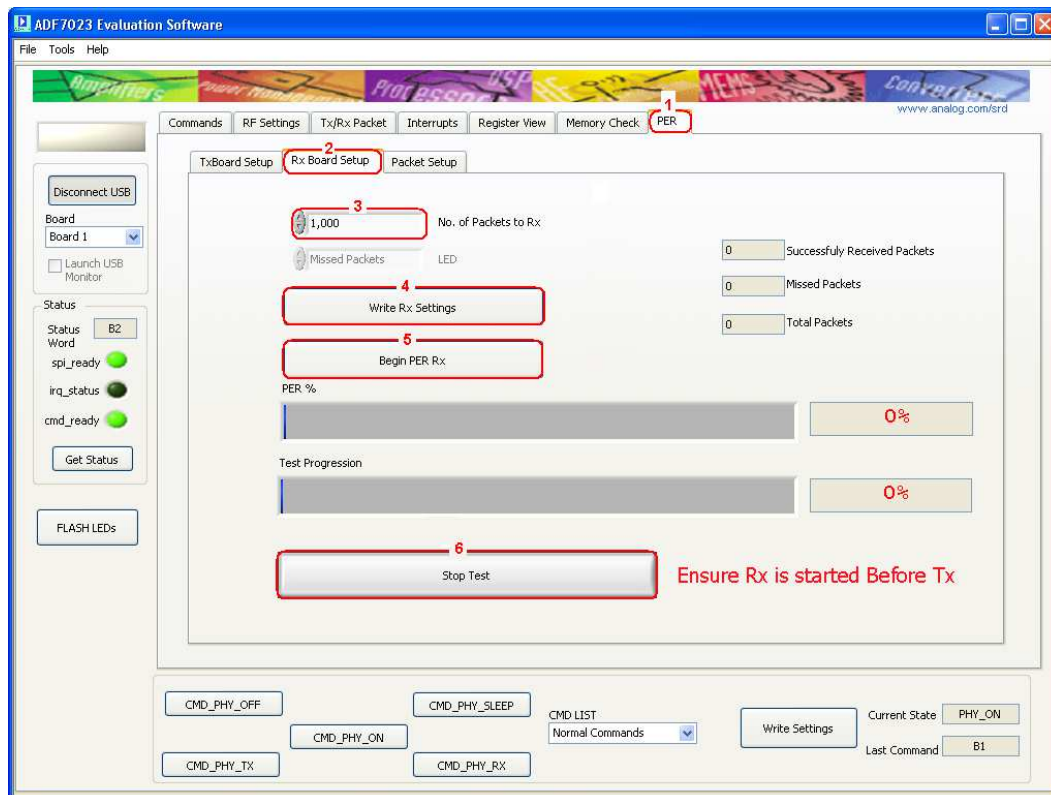

Figure 39
1. Once all of the Receiver and packet parameters are setup correctly (as in *Rx Setup in Packet Mode* section) then select the “**PER**” Tab. (Figure 39 point (1))
2. Select the “**Rx Board Setup**” Tab (Figure 39 point (2))
3. Set the number of packets to be received, “**No. of Packets to Rx**” (Figure 39 point (3))
4. Write these settings to the uC by clicking “**Write Rx Settings**” (Figure 39 point (4))
5. To begin the test and put the receiver into Rx click “**Begin PER Rx**” (Figure 39 point (5))
6. If at any time you wish to terminate the test manually press “**Stop Test**”. (Figure 39 point (6))